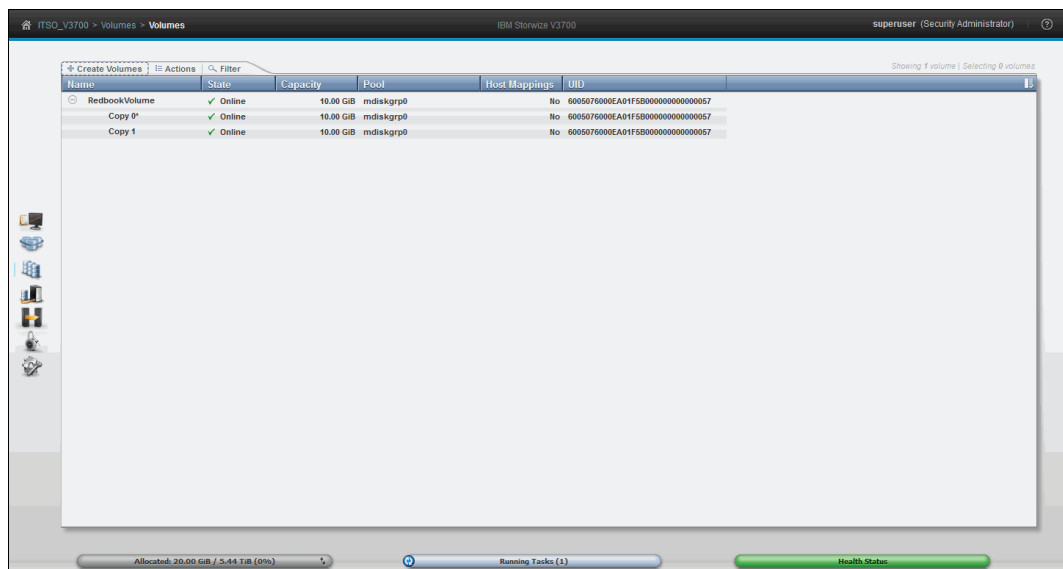

Figure 5-15 The Volumes view with the newly created volume listed
9. Click **Close** to return to the Volumes view, which now lists your newly created volumes, as shown in Figure 5-15.